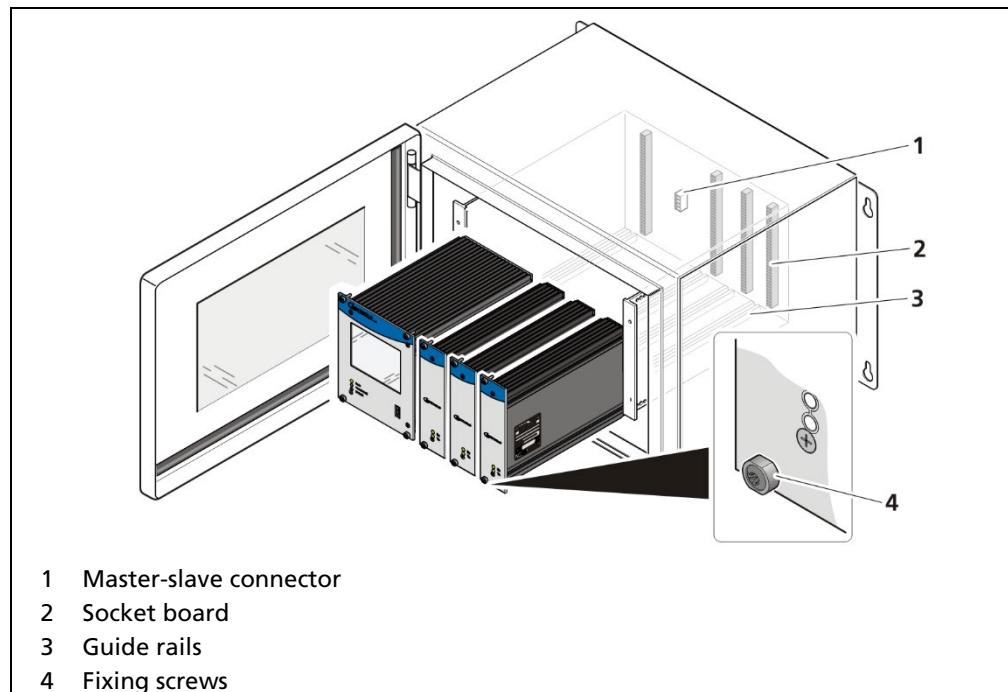

Fig. 13 Installation of the modules (Ex.: 1 master, 3x slave)
The master EVUs / slave modules must be secured against pulling out by fixing screws (Fig. 13, item 4).
1. Set modules into the guide rails and push it gently until the plug connector of the module (Fig. 13, item 2) is inserted into the socket board.
2. Tighten all fixing screws (Fig. 13, item 4).